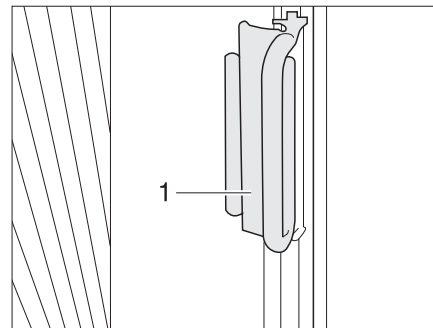

Fig. 40 Handle of the Roman shade for the windscreen
- Grip the Roman shades at both sides of the windscreen at the handle (Fig. 40,1) and pull carefully towards the middle of the windscreen until the magnetic catch keeps the Roman shade closed.
- Push the handle (Fig. 40,1) onto the attachment. The Roman shade is secured.